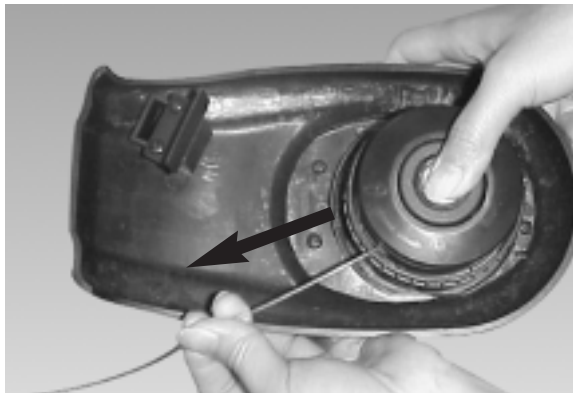

Fig. 23
- To test if the line is advancing properly, push the button with your thumb while pulling the line with your fingers. The line should advance freely. (Fig. 23).